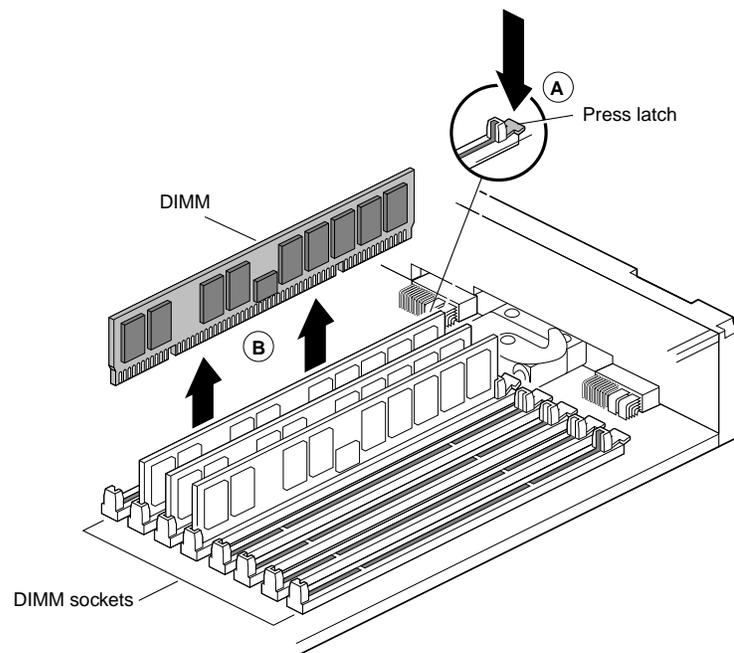

Figure 2-20 Removing a DIMM
- Press down on the latch at the end of the DIMM socket (see A in Figure 2-20). The DIMM partially ejects from the socket.
- Remove the DIMM (B).